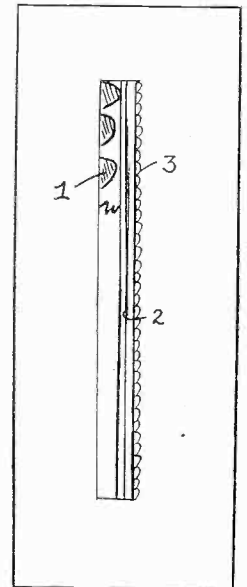

FIG. 2.
This condition is fulfilled by my condenser telephone, the construction of which is indicated in Fig. 2. A very thin sheet of rubber (2), which is closely connected with a powdery conductor (3), lies on a perforated plate. This plate represents one electrode of a condenser, the metal powder the other.